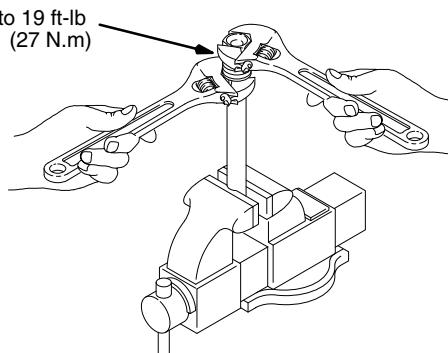

Fig. 27
- Place the flats of the rod in a vise. Carefully tighten the piston valve nut (211) against the piston rod to 19 ft-lb (27 N.m). Use two wrenches to maintain the alignment. See Fig. 27.